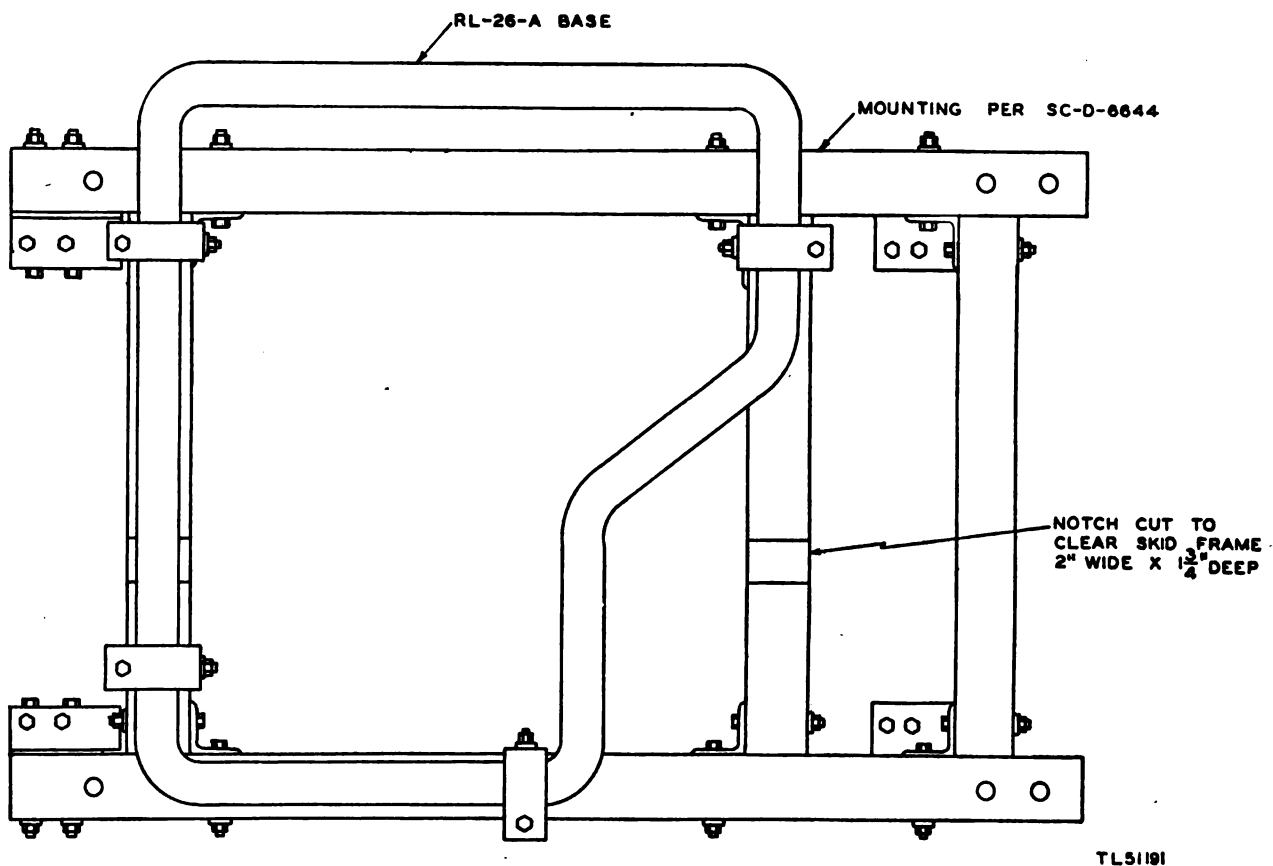

Figure 21. Mounting Reel Unit RL-26-A on $\frac{3}{4}$ -ton 4x4 weapons carrier with mounting kit.
(3) *Installation of Reel Unit RL-26-() in ¾ ton 4x4 weapons carrier.* Reel Unit RL-26-() may be installed in the ¾ ton 4x4 weapons carrier by using the special mounting kit SC No. 6H6226A/K13 provided for this purpose. The mounting frame is constructed with the hardware provided in the kit and the wood obtained in the field according to the detail diagram. (See fig. 19.) Holes for mounting the frame are drilled in the truck bed as shown in figure 20. The units are installed by attaching them to the mounting frame according to the mounting diagrams in figures 21 and 22. If the kit is not available, a mounting frame can be improvised from the materials at hand. Many variations in the construction of the frame are possible.